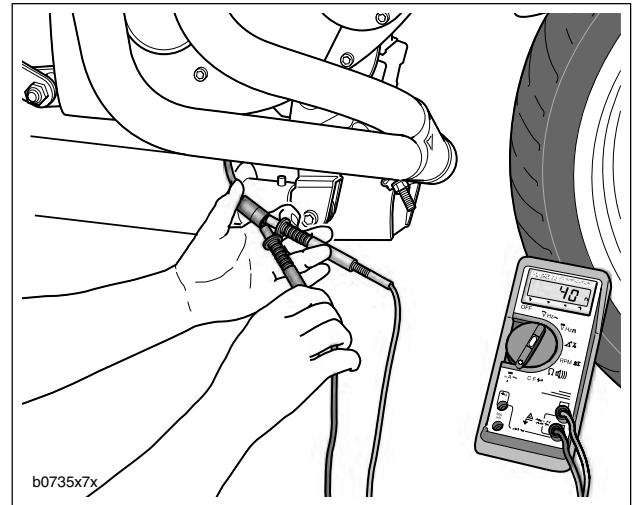

Figure 7-43. Check Stator AC Voltage Output
1. See Figure 7-43. Test AC output.